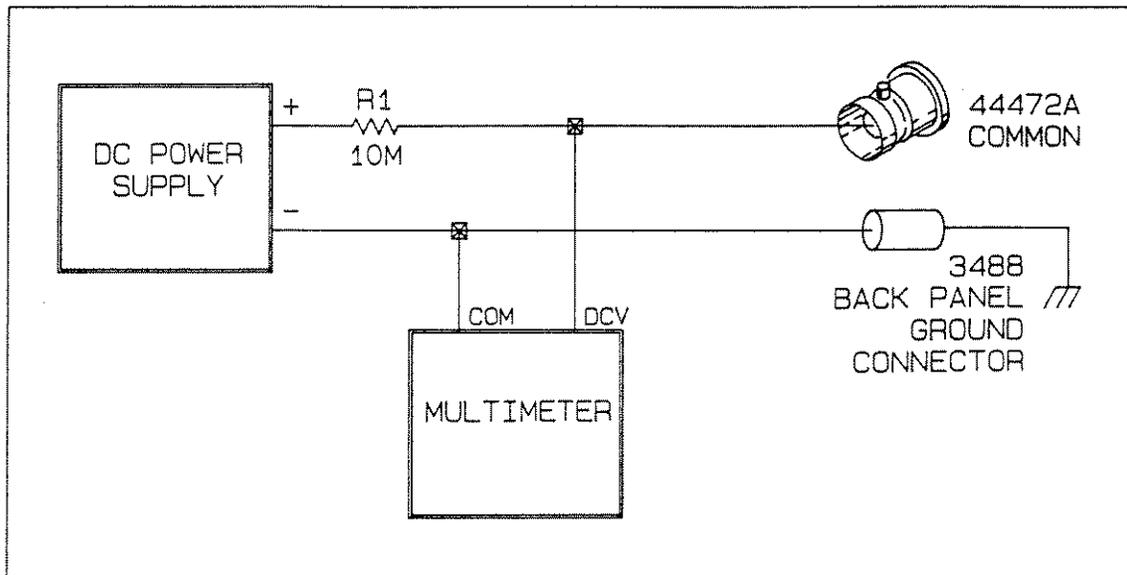

Figure 10-4 Channel to Chassis DC Isolation
13. Connect the center conductor of the COM 0 connector and the 3488A backpanel chassis ground terminal into the test circuit as shown in Figure 10-4.